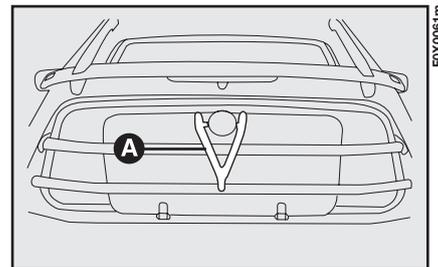

fig. 80
- insert the sun roof glass, using the tilting ring nut located near the luggage compartment in the space between the rear window and the protective mesh; then slide it between the two guides provided, as illustrated in fig. 80;